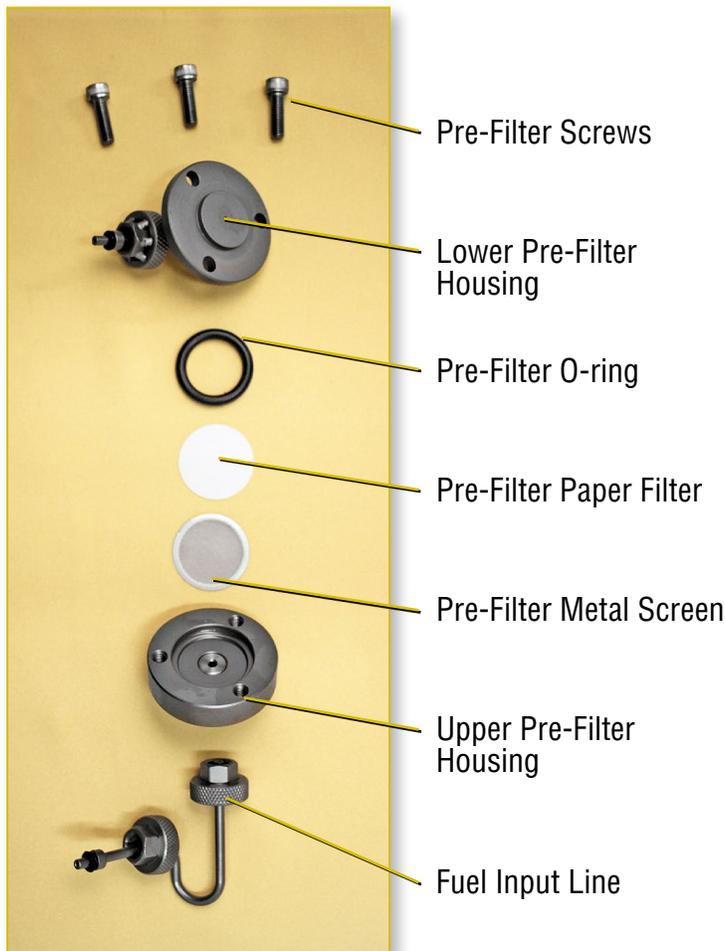

Figure 23 Pre-Filter Components
16. Begin assembling the pre-filter by placing the pre-filter O-ring on the lower housing [Figure 23].
17. Place the pre-filter screen into the upper housing [Figure 23].
19. Place the lower housing onto the upper housing. Line up the screw holes on the upper and lower housings and insert the screws through the lower housing into the upper housings [Figure 23]. Finger tighten the screws with the hexagon wrench.